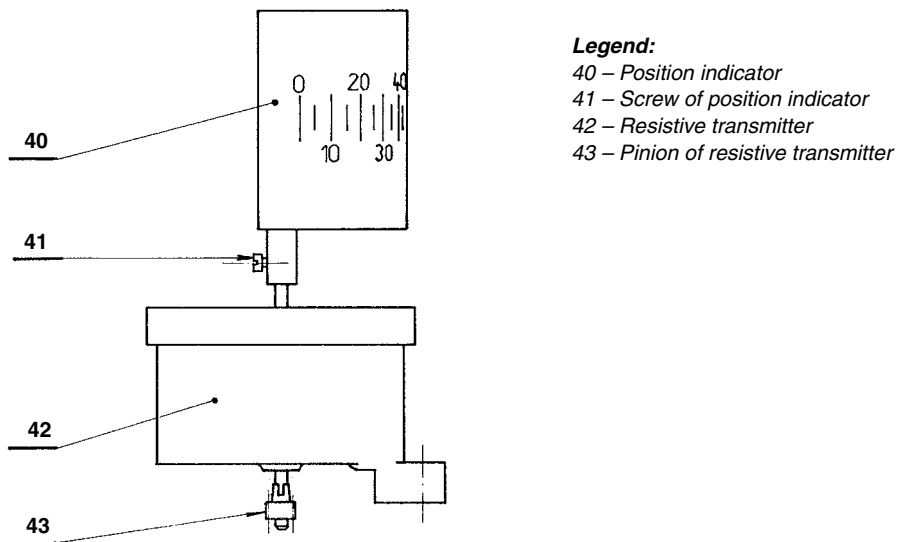

Fig. 9 - Resistive transmitter
d) Resistive position transmitter, including position indicator (Fig. 9)
Then, retighten the screw 64 and secure it against loosening by a drop of quick-drying varnish. In this way, the transmitter has been adjusted for the OPEN position. The position indicator is mounted on the shaft of potentiometer 42 by screw 41 (Fig. 9). Loosen this screw and, in the OPEN position, turn the indicator so that the division line 100 on its scale tallies with the red point on the sight glass in the control box cover. Finally, retighten the screw 41 and secure it by a drop of quick-drying varnish.